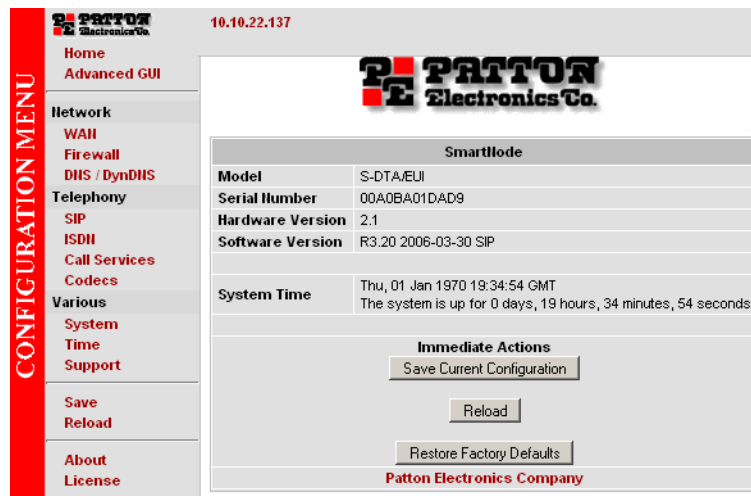

Figure 10. Smart-DTA home page
- Enter the username *administrator*. Do not enter a password. Instead simply click OK. Your web browser will display the Smart-DTA home page (see figure 10).